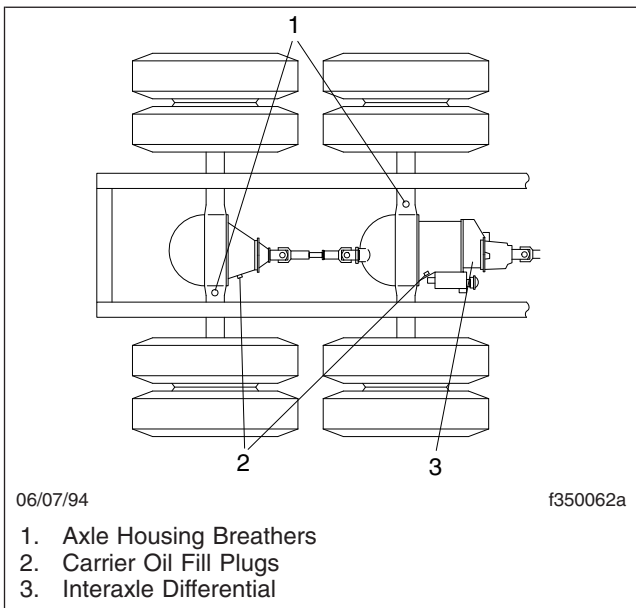

Fig. 7, Meritor Axle Housing Breathers
5. Check the axle housing breather. Make sure that it is open and unclogged. See Fig. 7. If the breather is plugged or damaged, clean or replace it as needed.